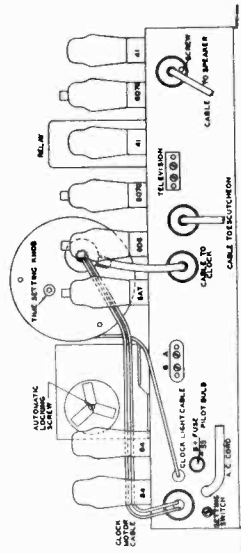

Fig. 1
If you find that the mechanism operates a few seconds before the change in program should be accomplished, you can slow it by pulling the wall plug of the radio for the exact number of seconds that the clock runs is fast. If, on the other hand, the change in programs is slow, you should merely set the clock forward a few seconds by means of the time setting knob on the back of the clock. (Fig. 1). Several hours may be required to get the clock exactly synchronized with the change in radio programs. However, once this has been accomplished, it will not need to be done again until such time when you may pull the wall plug, or until your house current fails from some other cause.
- Refer to Fig. 1 for the exact location of the setting switch.
6. B plus fuse (No. 55 Pilot bulb) burned out. Accessible from rear of chassis base. (See Fig. 1.)